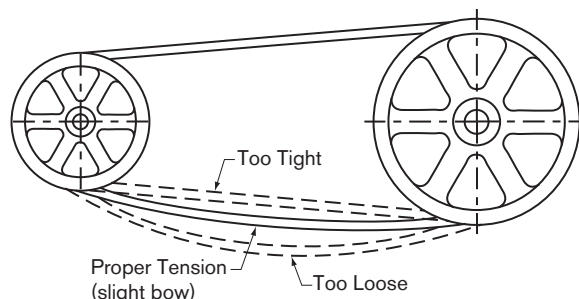

Figure 4
15. Unlock power to the motor and run the blower for eight hours. The belts should be running as shown in **Figure 4** below. If not, repeat steps 13 and 14 after you have turned off and locked out power to the motor.
- 20 Unlock power to the motor and run the blower for 8 hours. The belts should be running as shown in Figure 4. If not, repeat steps 18 and 19 after you have turned off and locked out power to the motor.